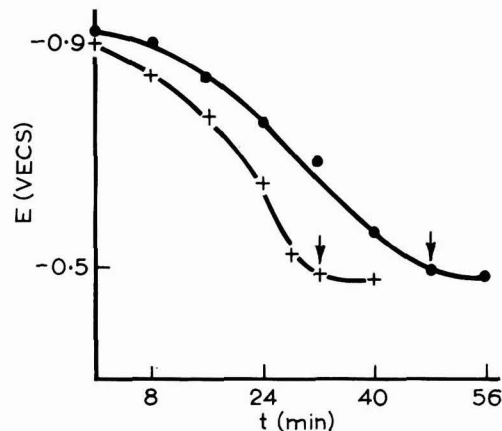

Fig. 6. Influence of paint thickness on coating performance: + 150 μm; ● 200 μm
A number of factors affecting  $T_c$  have been evaluated in this work. Figure 6 illustrates the effect of film thickness ( $e$ ), which was observed to agree fairly well with equation (2).